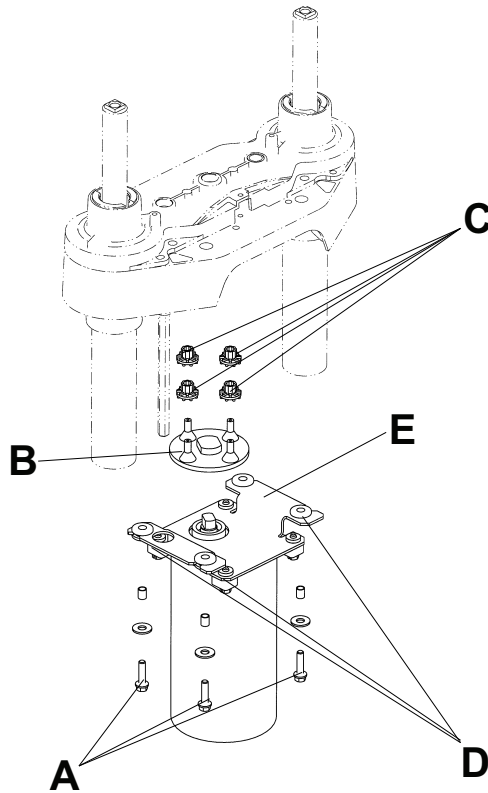

Figure 10 – Replace isolation plate
3. Using a 3/8" socket with a 6" extension, remove the four bolts (A) that secure the motor isolation plate (E) to the lift housing (Figure 10). Lower the isolation plate to the floor.
4. Remove the motor coupler (B) and bushings (C).
5. Using a 3/8" socket, remove the bolts and washers (D) from the motor. Remove the isolation plate (E).